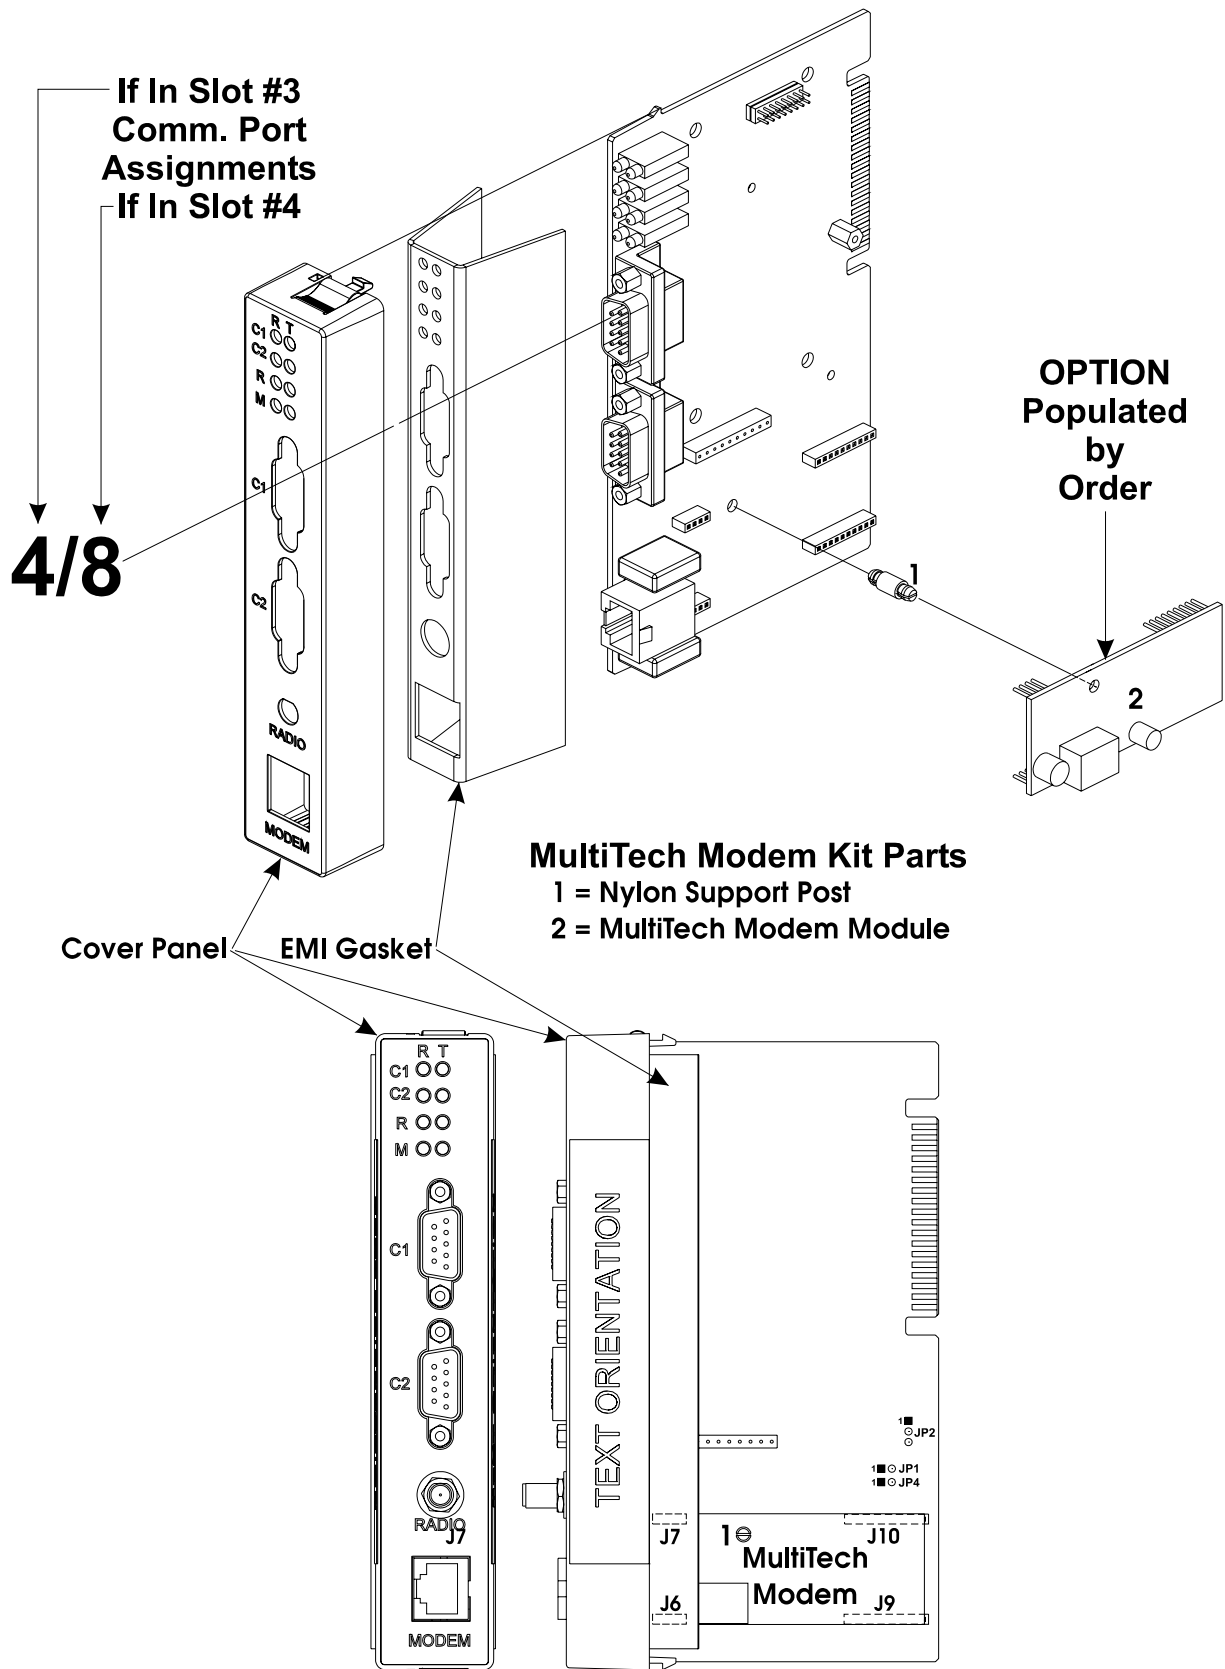

Figure D5 - MultiTech Modem Installation Diagram
- MDS Transnet Radio Module - Fig. D5 Reference = 5